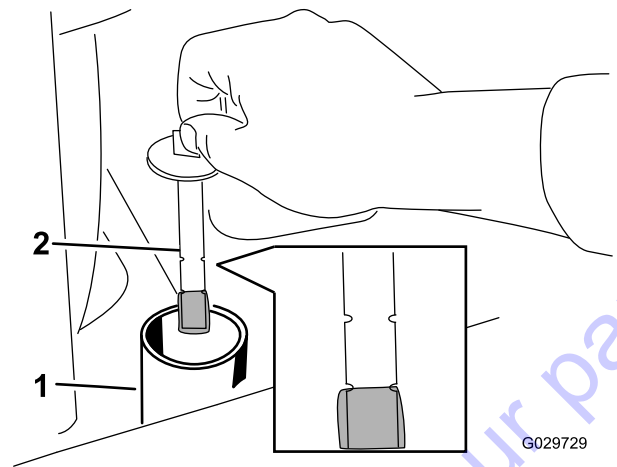

**Figure 70**
7. Clean the area around the filler neck of the hydraulic tank (Figure 70).